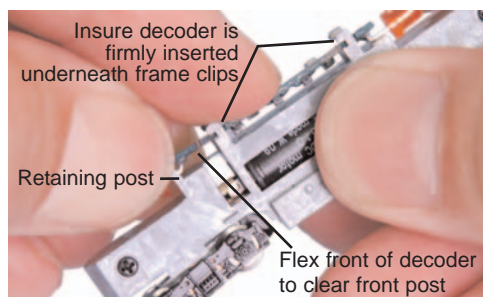

Figure 3: Installing Decoder in frame.
4. Take the DZ123M0 decoder (noting the correct orientation of the frame pads) and slide underneath frame clips as indicated in the **Figure 3.** You will need to gently flex the front of the decoder in order to clear the GP-35's retaining post (partially shown).